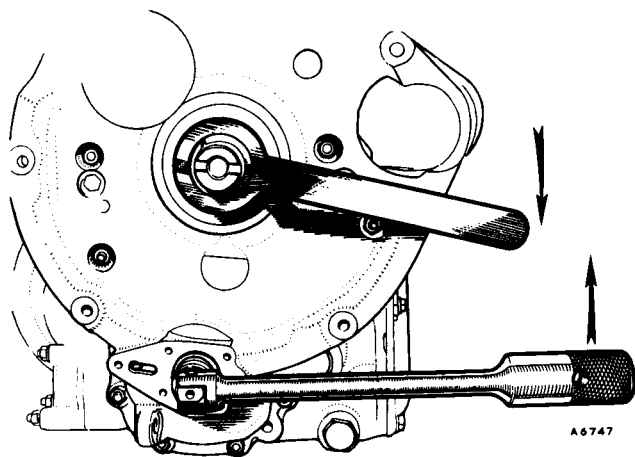

Fig. Aa.8
8. Fit Service tool 18G 1088 onto the converter output gear and remove the input gear self-locking nut (Fig. Aa.8).